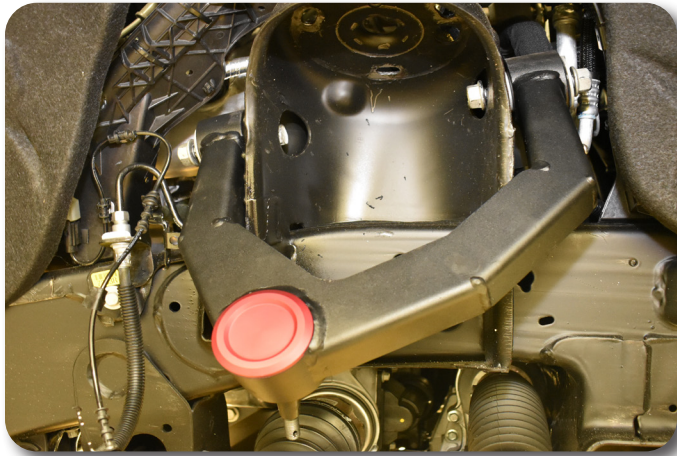

Figure 16
20. Install the new upper control arm to the vehicle using the new **provided 14mm bolts, washers, and nuts and using thread locker**. Run the bolt with a washer from the inside out of the strut bucket outwards with a washer and nut on the outer bushing washer surface. Do this for the front and rear control arm mounts. Figure 16. Snug up hardware.